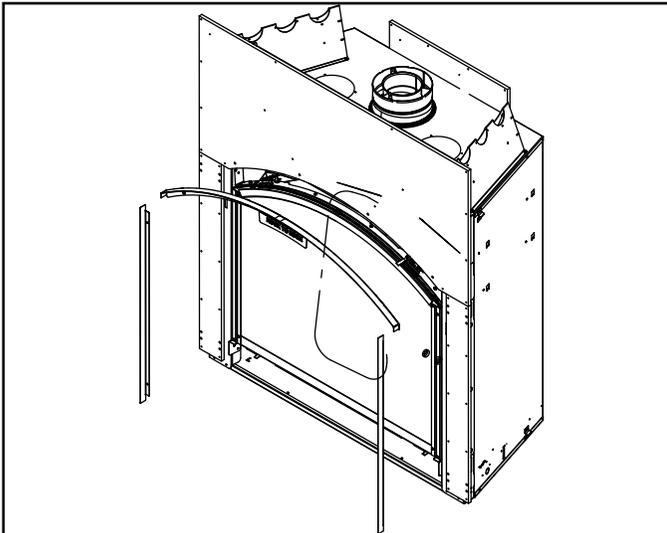

Figure 10.7 Top and Arch Finishing Pieces Assembled
- Attach the arch trim finishing template, as well as both side finishing template pieces, to the appliance over top of the non-combustible board using the hole locations shown in Figure 10.7. Use the provided self tapping screws found in the manual bag to attach the template pieces.